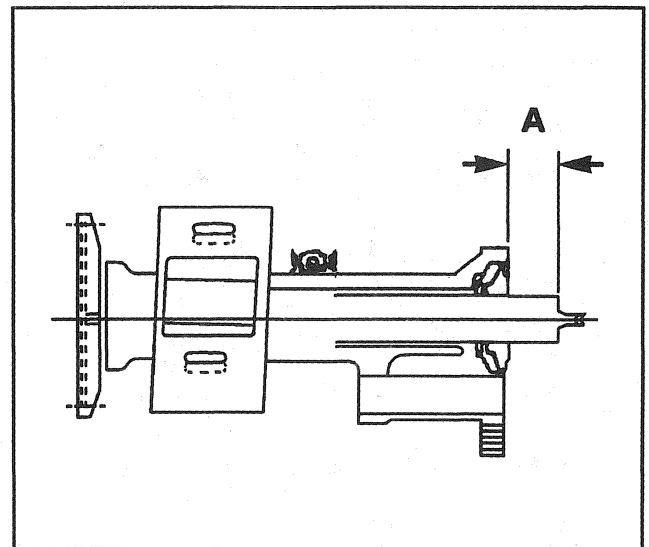

Figure 45—Measuring to Calculate Shim Size-Axle Shaft
- Refer to Figures 45 through 48
2. Measure dimension "A." Use J 34672 or equivalent (Figures 45 and 47).